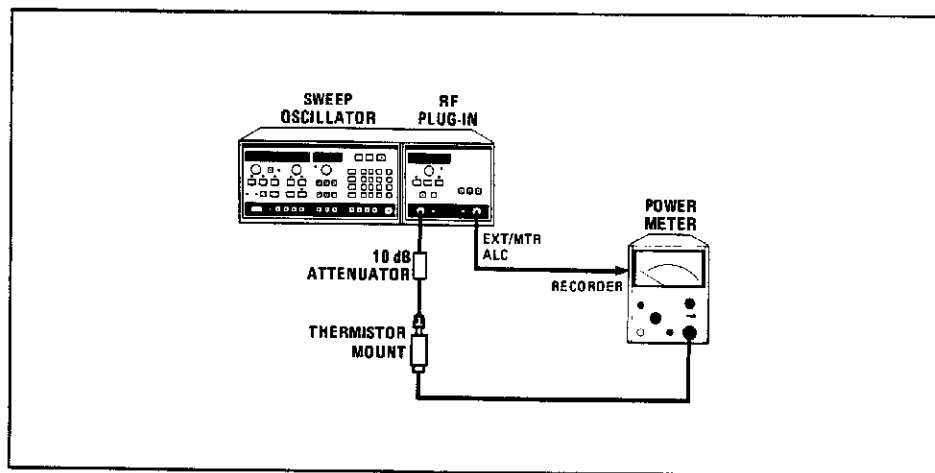

Figure 8-26. Power Meter Leveling Setup
- Attempt to level the power externally using the HP 432A Power Meter as shown in Figure 8-26 (use HP K486A mount above 18 GHz). Select [MTR] leveling, and enter a 100 seconds sweep time. If the RF power is now leveled the failure is most likely in the detectors or the Detector Selection Switch, A4U6. Refer to the following paragraph. If this does not prove to be the case, the problem may be in the two analog switches U4B and U6A. It may be necessary to perform the ALC adjustments in Section V of this manual.